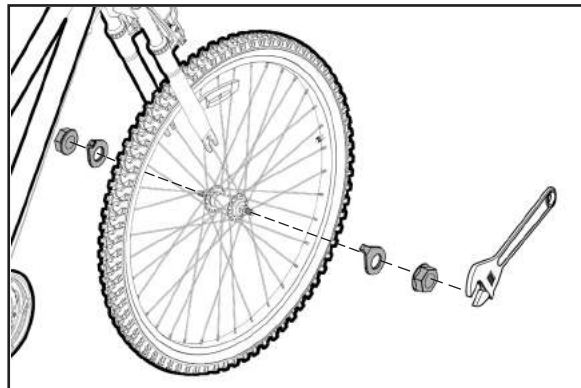

Figure 28
To install the front wheel, insert the wheel in the dropouts, place the locking washer on the axle, line up the tab on the retainer clip with the corresponding hole in the drop out. Place the locknut on the axle after the retainer clip and tighten the lock nut with (B) Adjustable Wrench (see Figures 28 & 29).